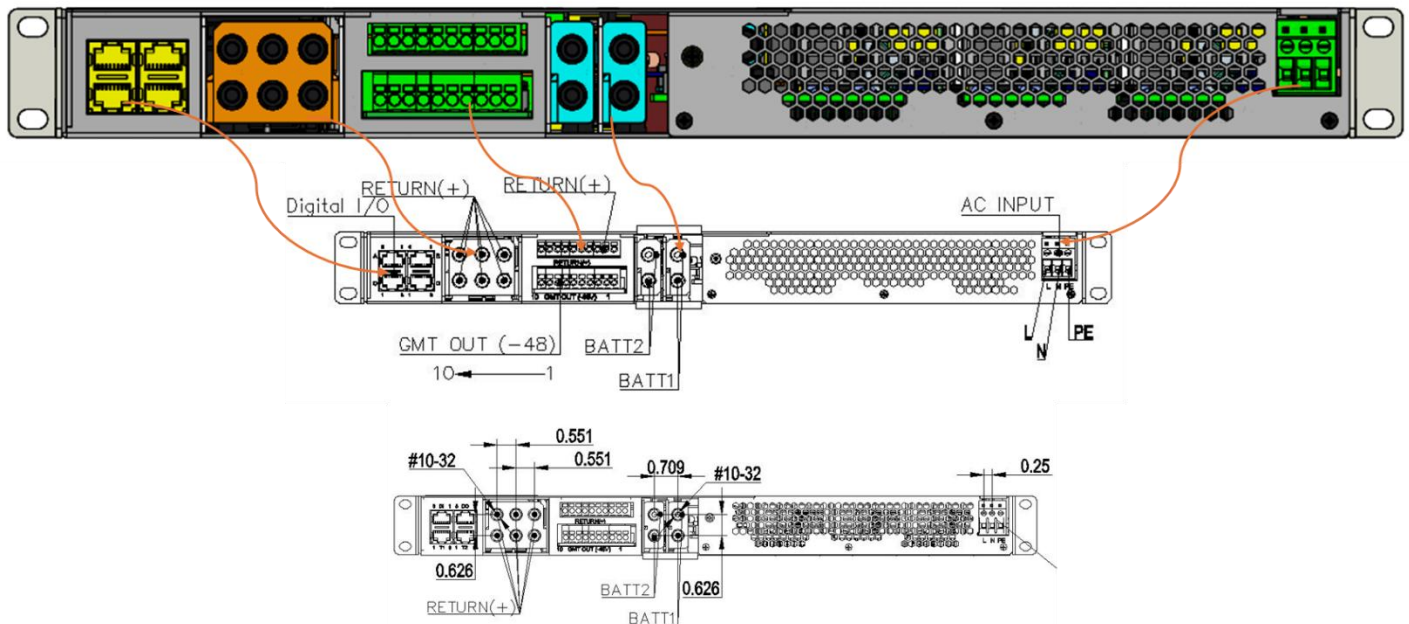
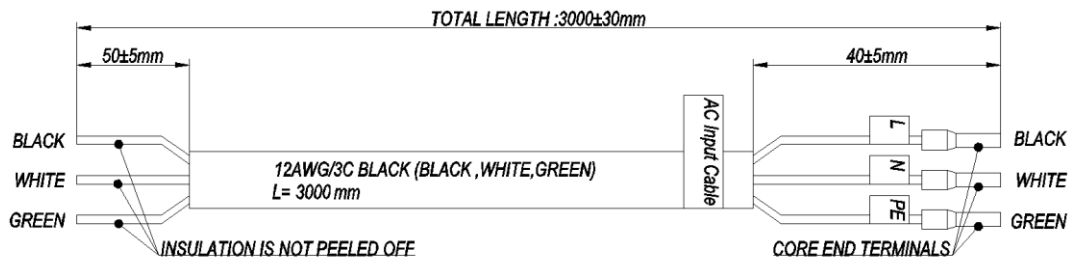

Figure 8: Details of AC, DC, and Signal connection
Figure 11 : AC cable
As illustrated in Figure 8, the shelf's AC input is connected through the terminal block. DPT includes a standard AC cable with each system. Figure 11 provides detailed information about this cable.
The Vega 1RU shelf provides multiple Digital Input / Output (DIO) and temperature sense inputs through four RJ-45 connectors located in the back of the shelf as shown in Figure 8.
1. Install brackets on the shelf based on the site preference. The shelf can be flush mount (default) or mid-mount, depending on the location of the two side brackets, as shown in Figure 11